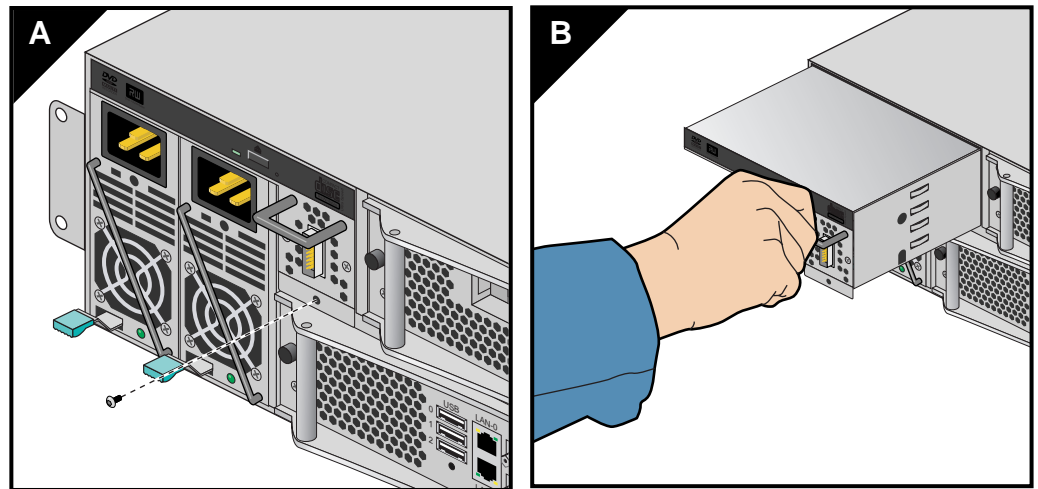

Figure 5-9 Altix UV 100 Drive Tray Removal
5. Remove the retention screw and set it aside, see Figure 5-9 for an example.